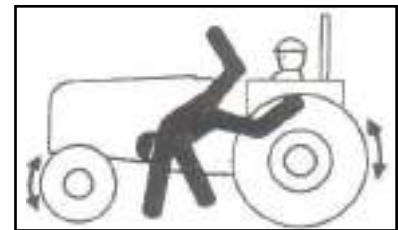

Fig. 17
- Prevent any unauthorized person from approaching the tractor (Fig. 17);